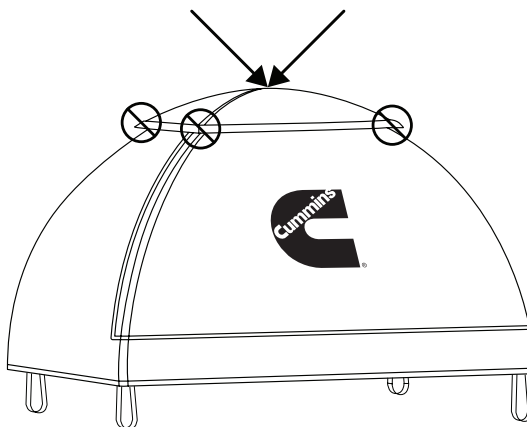

Fig. 4.5
- d. Take hold of the GenTent by grasping the center of the Canopy top cap (Fig. 4.5) and lift straight up, **DO NOT LIFT BY THE TOP CAP CORNERS.** The tension on the strap from the fully assembled GenTent will ensure it keeps its shape.